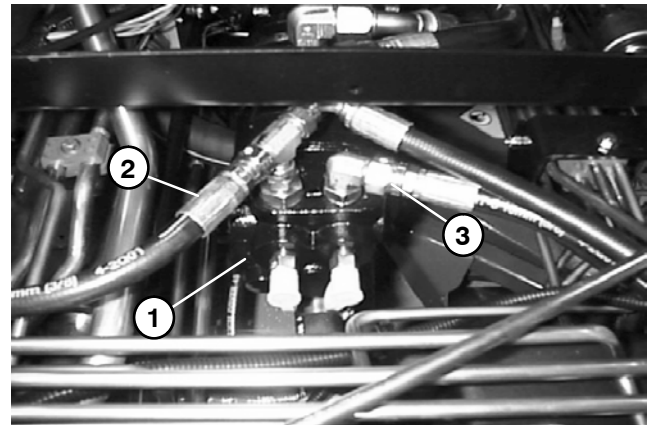

Figure 42
3. With the engine off and cutting units lowered, install tester in series between the last gear pump section and one of the circuit hoses (Fig. 42). Make sure the tester flow control valve is OPEN.